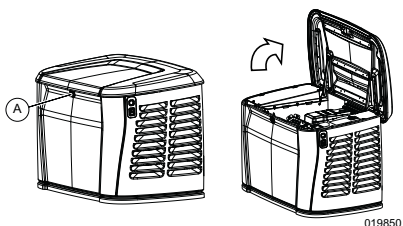

Figure 2-3. Opening the Lid
2. See Figure 2-3. One lock (A) secures generator lid. Lock is located behind bezel in the center of the front access panel. Insert key vertically. Press down on lid above lock and turn to the left to unlock.